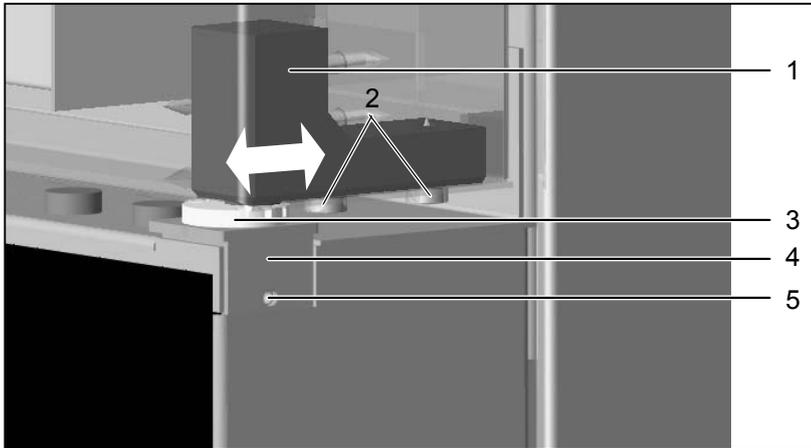

Fig. 36 Adjusting the door
1. Undo mounting bolts (Fig. 36, 2) at the top and bottom of door.
2. The top section of the door hinge (1) can now be moved slightly in the direction of the arrow.
3. After undoing the Allen set screw (5), the door can be adjusted by turning the eccentric (3) with a screwdriver.